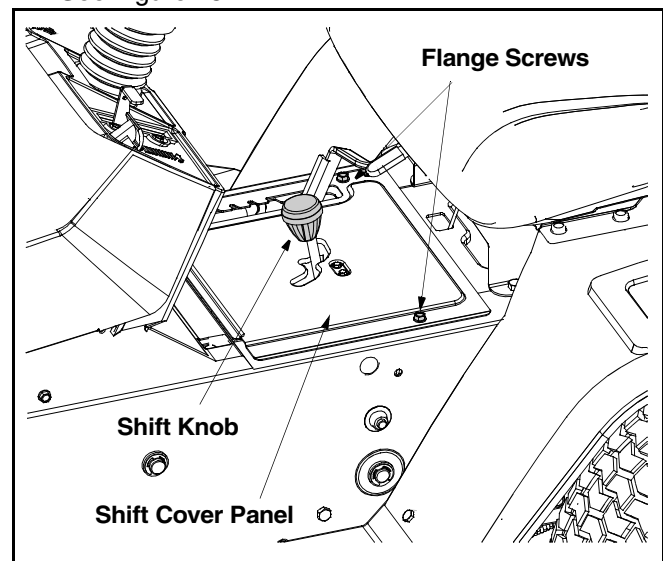

Figure 15
- Unthread the shift knob and remove the two flange screws which secure the shift cover panel in place. See Figure 15.
- Unthread the shift knob and remove the two flange screws which secure the shift cover panel in place. Refer to Figure 15.